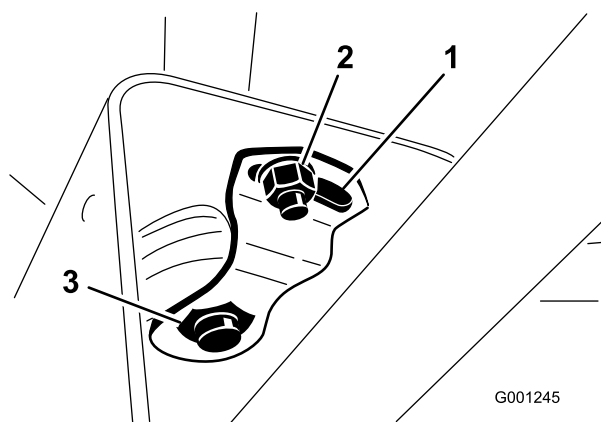

Figure 55
2. Slide cover up steering shaft to expose pivot bracket (Figure 55).
3. Loosen small nut, rotate pivot bracket until it tightens large nut below (Figure 55). Retighten small nut.